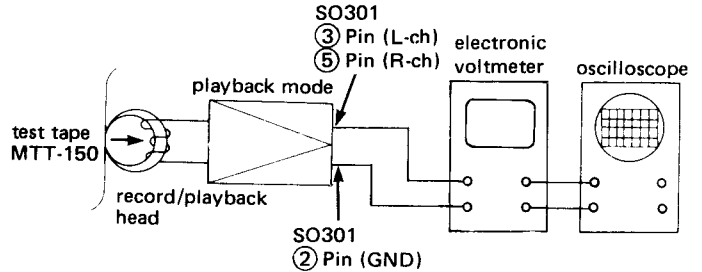

Figure 16-2
- 1) Make connection of instruments as shown in Fig. 16-2.